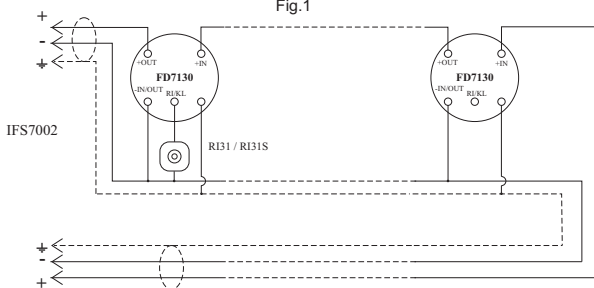

Fig.2
2. Complete the wiring as shown on fig. 2 and in accordance with the construction projects of the site.